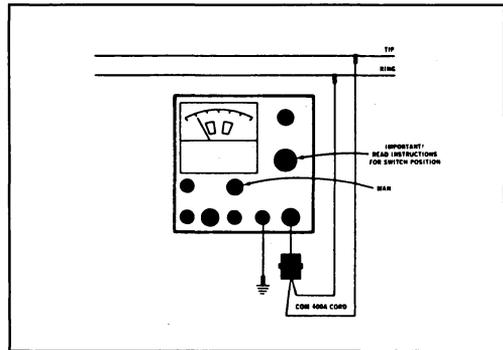

FIGURE 19
6.02 Connect the cords as shown in Figure 19. Place the toggle switch in the MAN position and the Function Knob in the MON position. It is important that the Function Knob be in the MON position each time the COM 400A or B clips are connected or disconnected from a pair. With the Function Knob set to MON, clip on to each side of the pair. Care should be taken not to allow the clips to touch each other or contact any exposed conductive surface. When good contact with both sides of the working pair (in use or idle) have been made, the meter will indicate a reading of 25 volts ± 2.5 volts. This section of the meter face has a thicker, boarder line to aid in rapid recognition of the safe zone. When applying simplex at the extreme outer loop limits of a central office, it is recommended that the meter indication be observed when the first clip is applied to the pair. If the meter indicates 22.5 to 27.5 volts, verify that the reading changes when the other clip is applied to the opposite side of the pair.